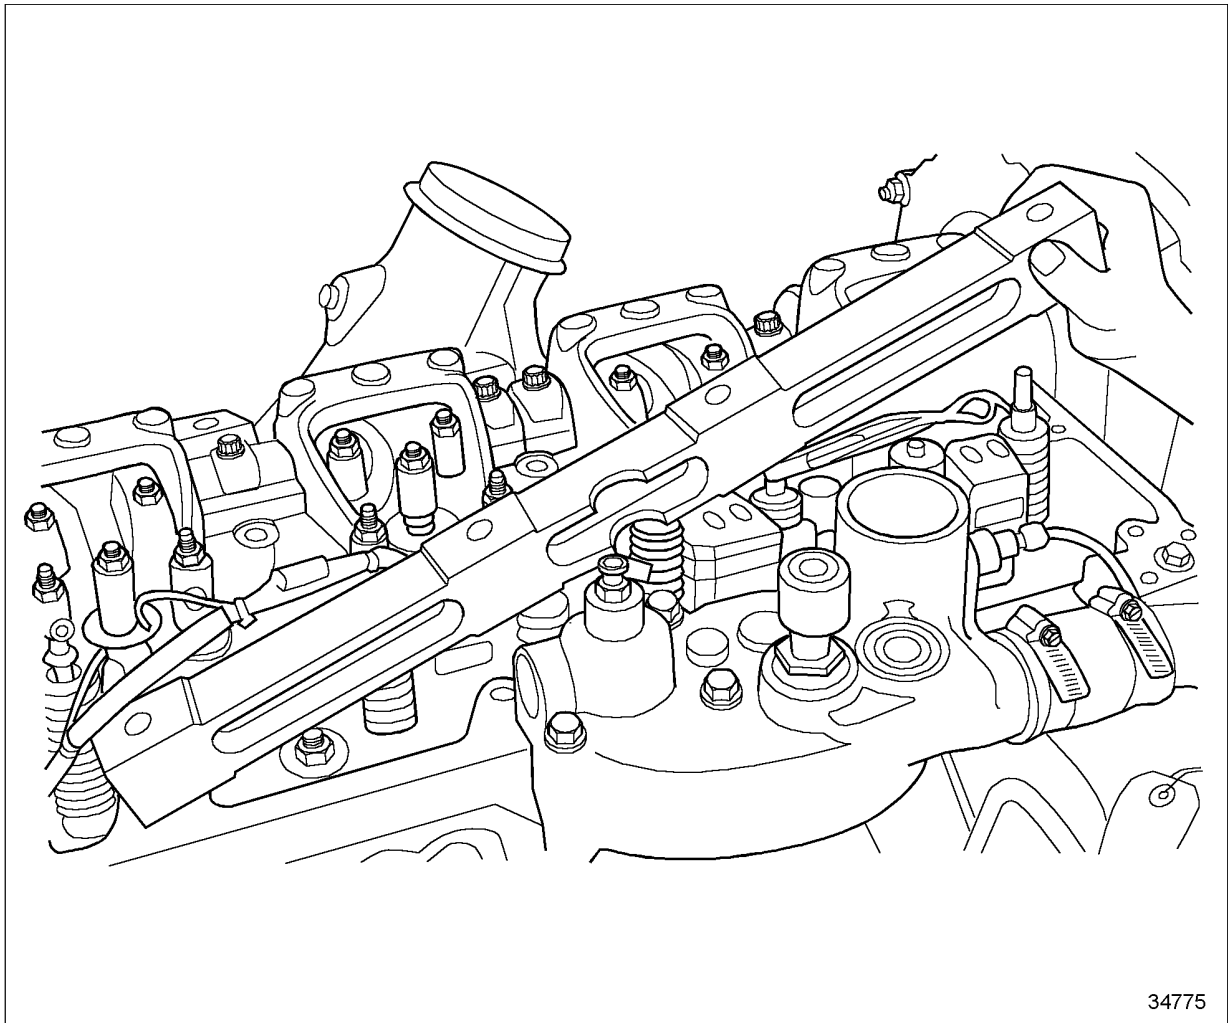

Figure 1-433 **Location of Spacer Bar**
4. Place the spacer bar on the exhaust manifold side of the cylinder head with the center notch facing the exhaust manifold. See Figure 1-433.